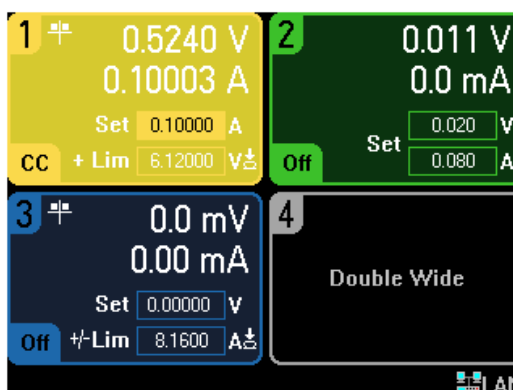

Figure 11 N6782A SMU’s Meter View from the N6705C Front Panel Display
- 6 Figure 11 shows a typical front panel display of the N6705C showing the output channels’ voltage and current readings and settings. Use the voltage and current readings to calculate the cable assembly’s physical resistance. In this example the physical resistance is 5.238Ω ($0.5240V/0.10003A = 5.238$). Record this value for later use; it gets entered into the BT2152A’s software’s **“Total Physical Resistance”** setting in the Hardware Configuration screen. See “Configure the BT2192A Test System Parameters” on page 32.